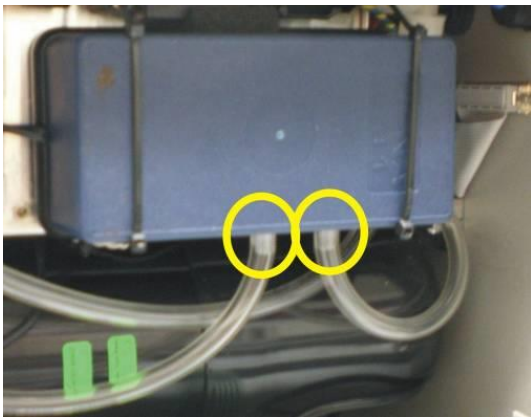

Figure 56 – Pump ports
2. Turn the sampler on to check whether there is vacuum and pressure on the appropriate ports in Figure 56.